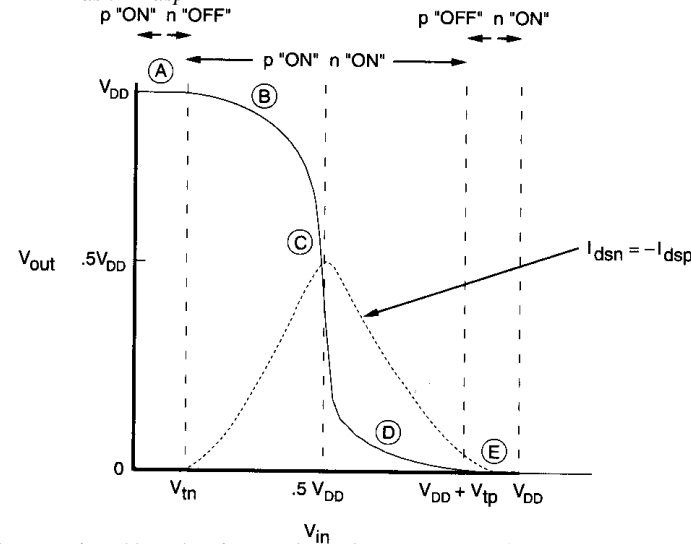

FIGURE 2.13 CMOS inverter DC transfer characteristic and operating regions
- Solving for $V_{inn} = V_{inp}$ and $I_{dsn} = I_{dsp}$ gives the desired transfer characteristics of the inverter. (see figure 2.13)
- Operation regions of an inverter (see Figure 2.13 and Table 2.3)